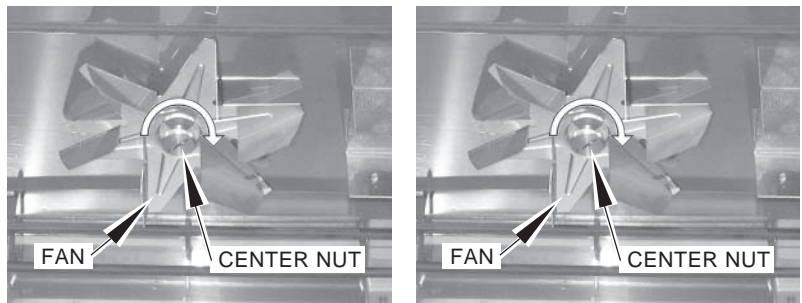

Fig. 65
6. Remove two fan blades by unscrewing center nut on fan blades (clockwise, Fig. 65).